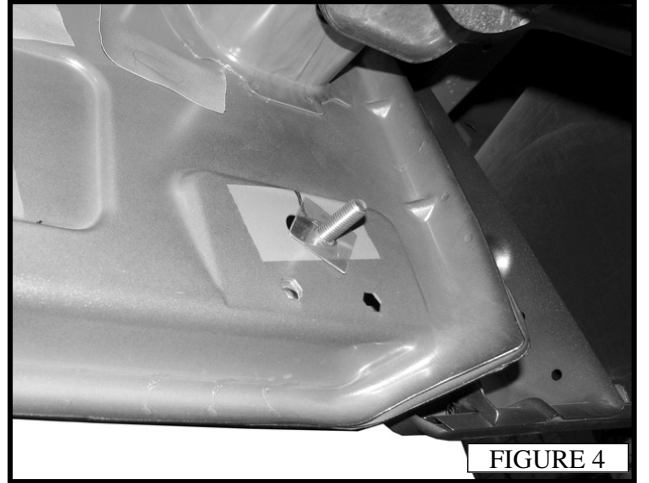

FIGURE 4
- Remove the tape located at the rearmost running board holes. Thread (1) M11 plastic retainer to (1) stud + nut plate. Insert the stud plate into the slot. Tighten the retainer so the stud plate is se-cured. (FIGURE 4)